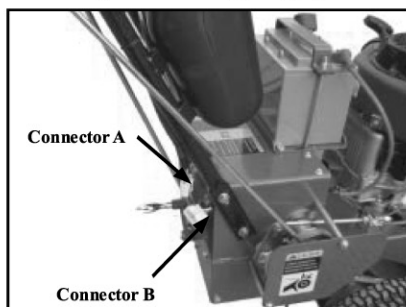

FIG 2 Electric Start Controls
For the Electric Start Mower, FIG 2, plug the Connector A on the Handlebar into the Connector B on the Engine Frame, refer to the Wiring Harness Diagram, page 8.
1. Be sure that Mower Blade Drive Lever is disengaged and both Brake Latches are locked. FIG2